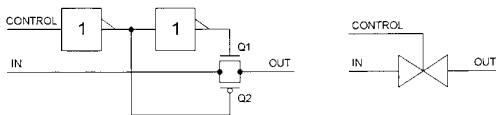

Figure 4
3. *Figure 4* shows the circuit of a transmission gate consisting of two enhancement transistors and two logic gates. The figure also shows an abbreviated symbol used to represent the circuit.